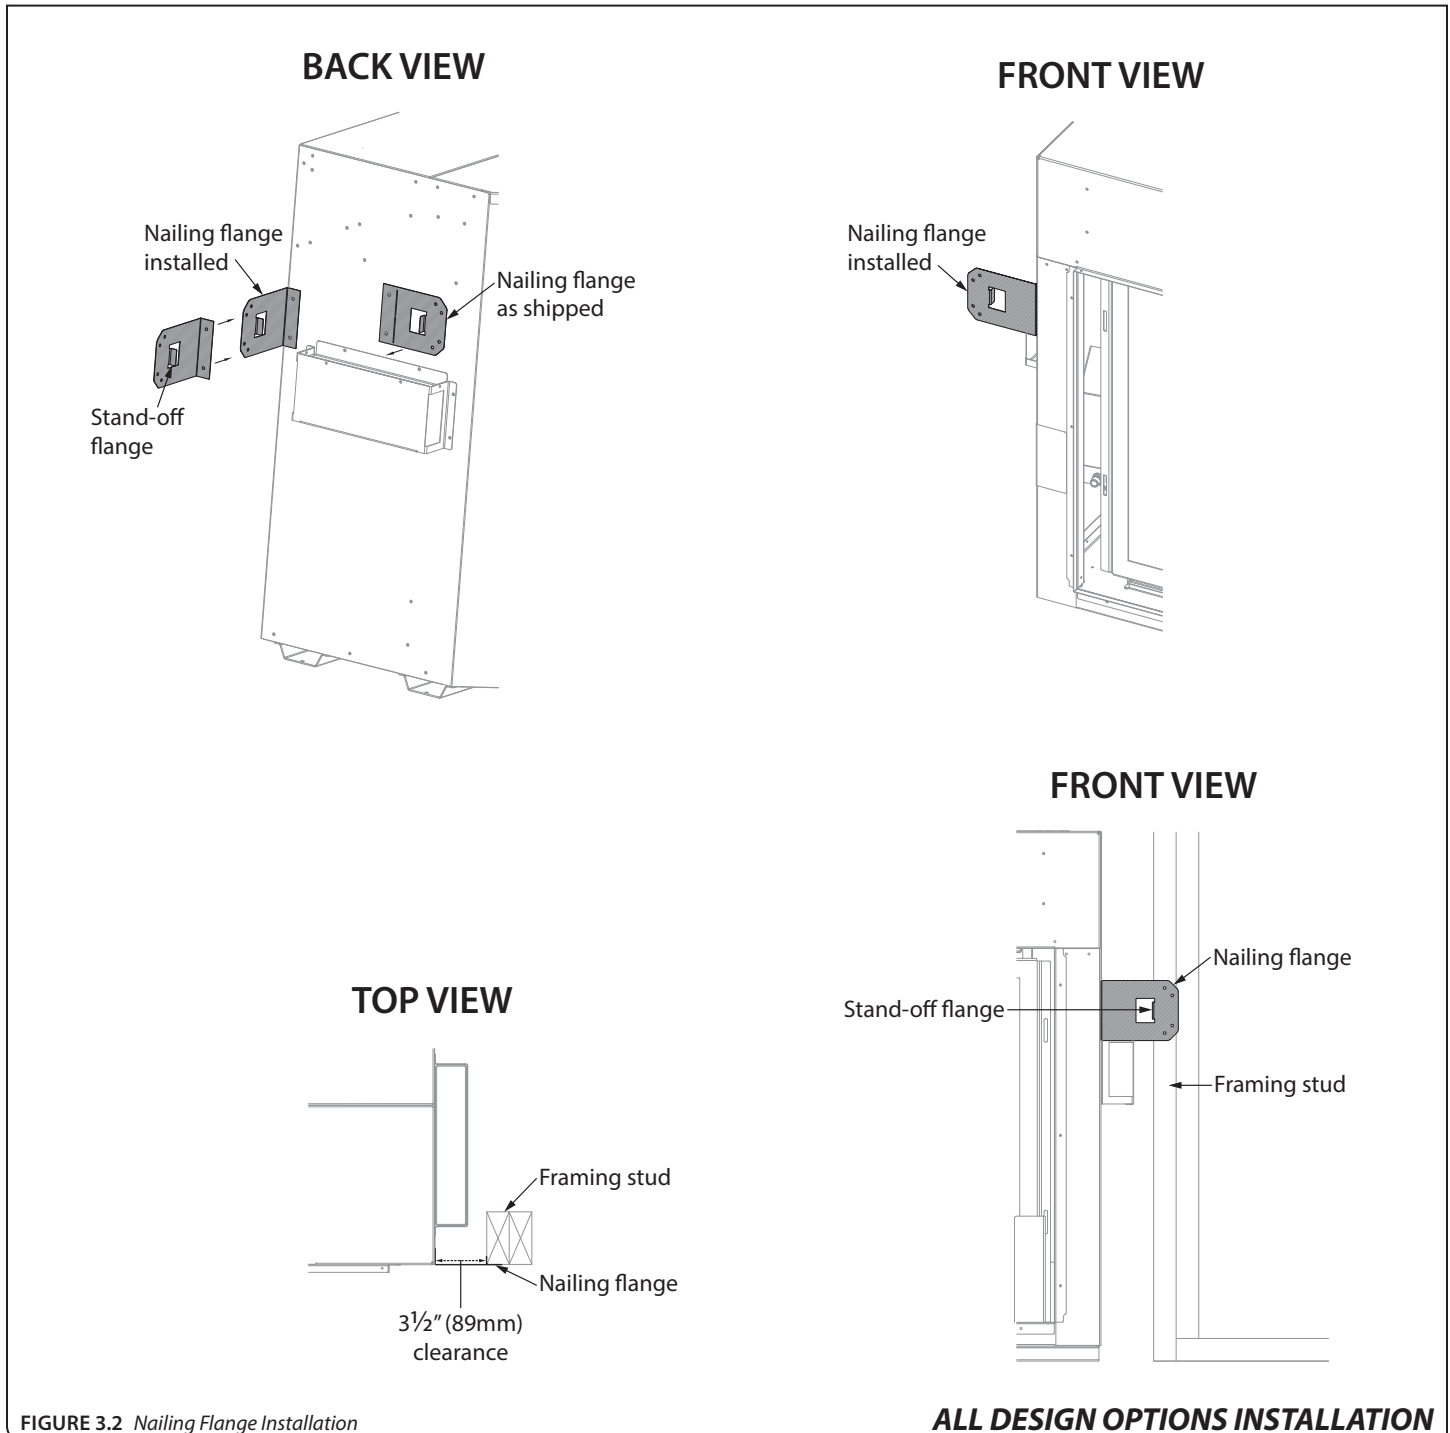

FIGURE 3.2 *Nailing Flange Installation*
*Refer to FIGURE 3.2 below for nailing flange installation.*
1. Remove (2) nailing flanges from the right and left side of the fireplace.